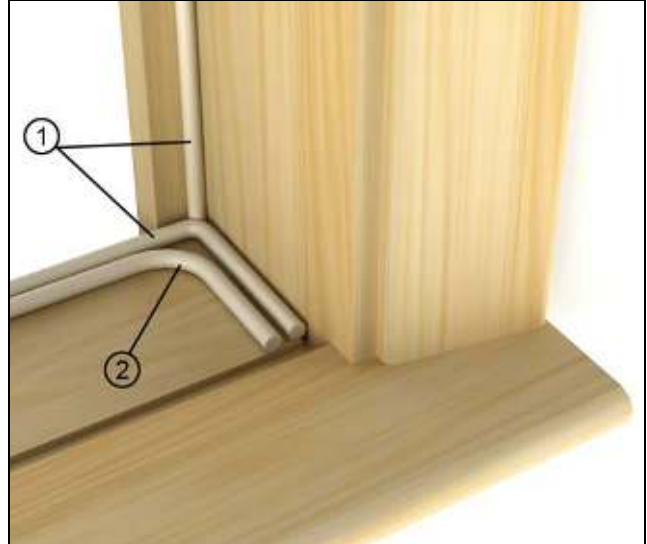

Figure 5
5. Apply a 1/4" (6) bead of sealant at both sill to jamb joints and on the back of the interior sash stops or moulding. Apply a secondary continuous bead of sealant on sill. Proceed to Installing the Insert Window. See Figure 5.